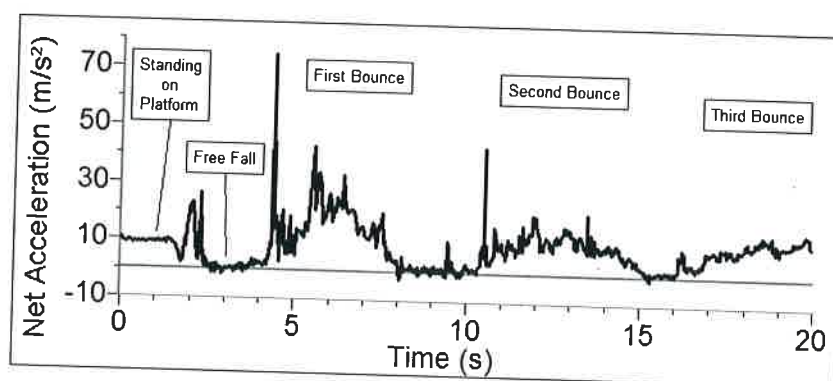

Figure 1
2. Study the graph of the acceleration during an actual bungee jump (Figure 1). On the graph, label the time corresponding to the lowest position during the jump.